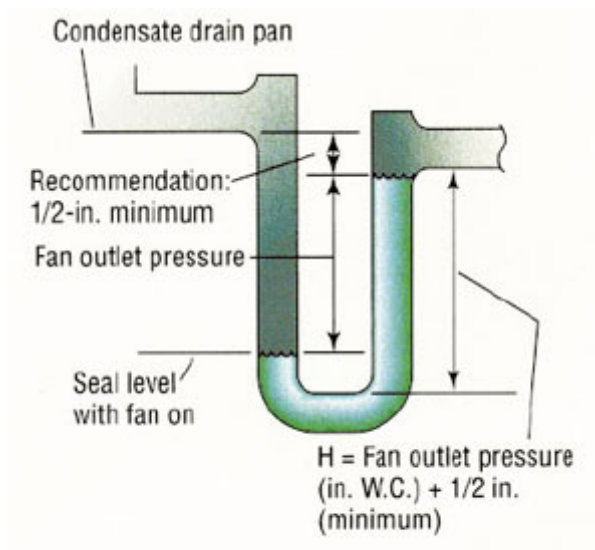

Figure 5 : Trap for blow-thru unit, fan running and condensate beginning to drain away.
**Figure 5** shows the condensate column levels when the fan starts. After the fan starts, additional condensate coming from the pan drains away. Again, it is important to take into account the total trap depth - dimension "L" - to ensure an adequate mounting height for the air handler.